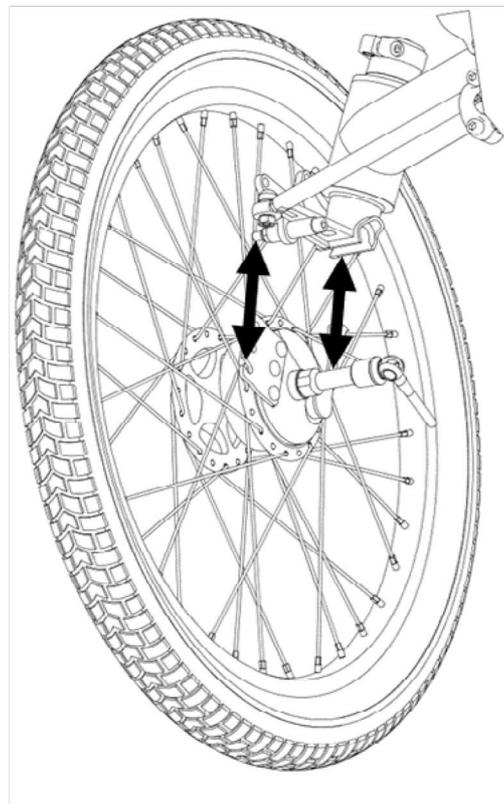

Figure 16 - Drum brake fixing pin
4. Pull the wheel out to disengage the drum brake from the kingpin's fixing pin (Figure 16).